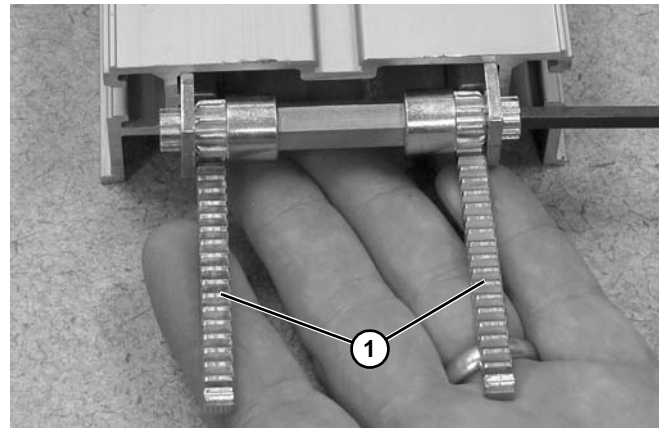

Figure 105
9. Insert both gear racks (**Figure 105, item 1**) into conveyor frame.